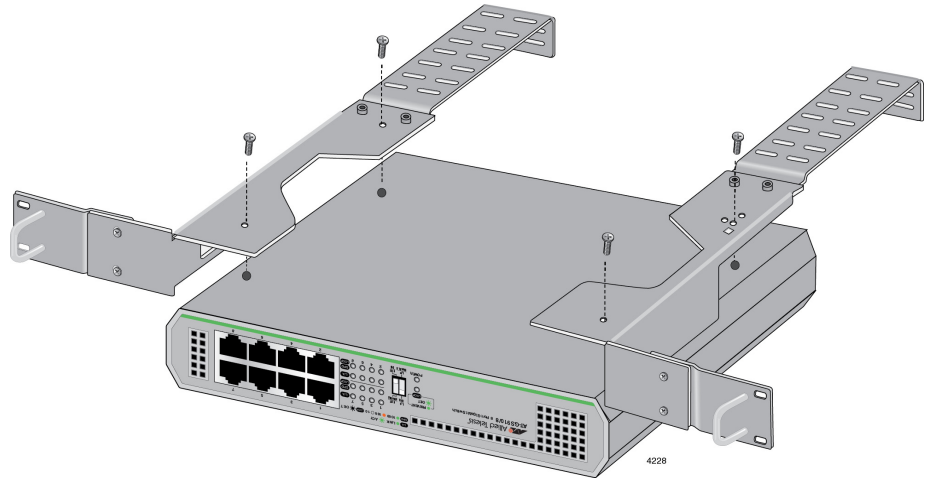

Figure 30. Attaching the Plates to the Switch
6. Attach the mounting plates from Step 4 to the switch with M3x6mm screws using a Phillip-head screw driver as shown in Figure 30.